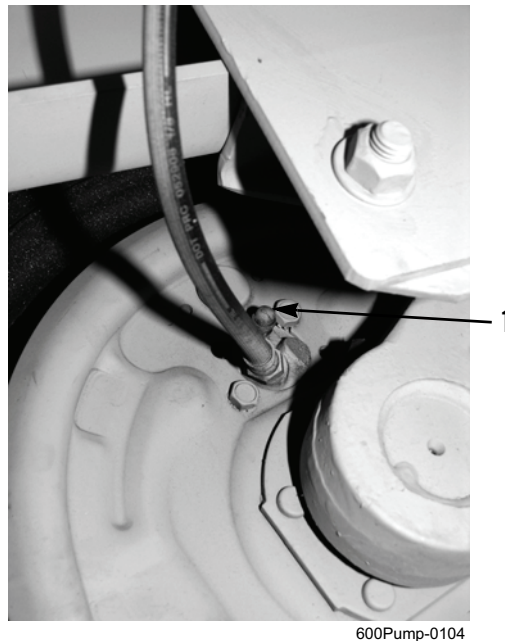

Figure 6. Wheel Cylinder Bleeder Fitting.
11. Carefully open wheel cylinder bleeder fitting (Figure 6, Item 1) 1/2 to 3/4 turn and drain brake fluid into container until brake fluid is free of air bubbles.
12. Close wheel cylinder bleeder fitting (Figure 6, Item 1).
14. Disconnect bleeder hose from wheel cylinder bleeder fitting (Figure 6, Item 1).